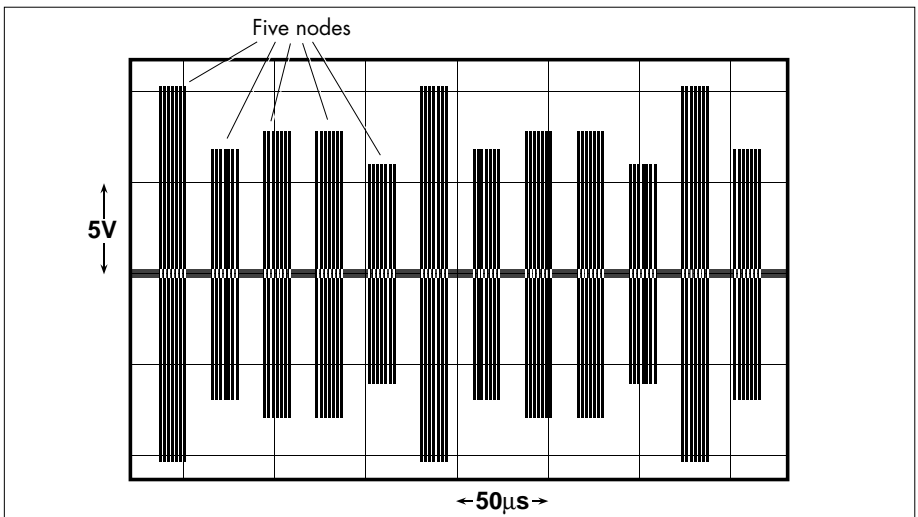

Figure 4-7 ALIN signal – example showing five nodes
- The normal display expected is a series of relatively short (up to 50µs typically) discrete blocks of activity separated by quiet (0V) periods of similar duration. Figure 4-7 shows a typical display for an example 5-node system. The variation in block signal level is mostly due to the different attenuations suffered by the signals from nodes at various distances from the measurement point.